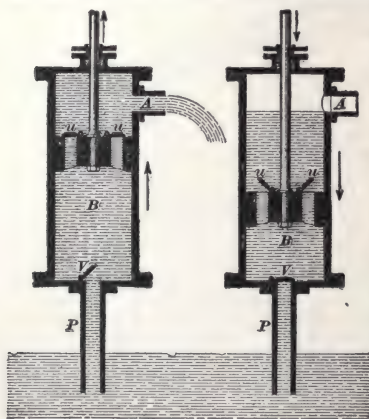
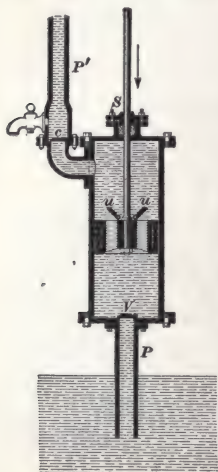

FIG. 25.
FIG. 26.
**70. The Suction Pump.**—A section of an ordinary suction pump is shown in diagrammatic form in Fig. 25.
**72. The Lifting Pump.**—In some cases it is desired to raise water higher than it can be forced by the pressure of the atmosphere into the chamber of a simple suction pump, such as is shown in Fig. 25. To accomplish this the pump chamber with its bucket and valves are set at a distance above the supply not exceeding that to which the air will successfully force the water. A closed pipe  $P'$ , Fig. 26,
While it is customary to consider lifting pumps and suction pumps as two different types of pumps, there is in reality no difference in their operation, as a careful study of Figs. 25 and 26 will show. The only difference is that the water is discharged by a suction pump *at* the level of the